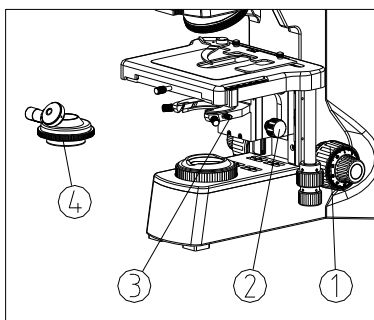

Fig. 6
(1) Rotate the coarse focusing knob ① to raise stage to the highest. (See Fig. 6)
(2) Rotate the condenser up-down knob ② to lower the condenser bracket to the lowest.
(3) Loosen the condenser lock-screw ③ fully.
(4) Swing out the front lens of condenser with the